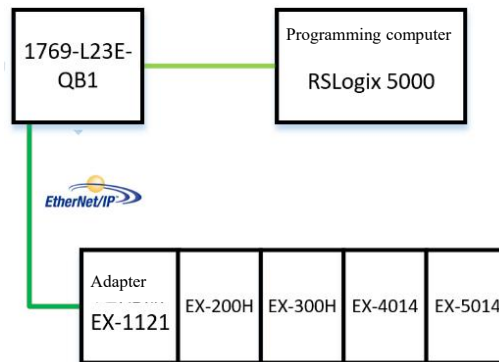

Figure 5-8-37 Communication connection diagram
1. Communication connection diagram, as shown in Figure 5-8-37